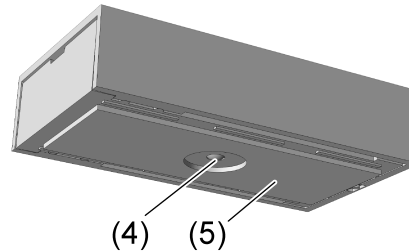

Figure 7: Underside of housing with adhesive pads
- Apply adhesive pad (5) to underside of housing (Figure 7). Remove the protective film on one side, place it on the underside of the sensor housing and press it down firmly. The light guide (4) for brightness measurement must not be pasted over.